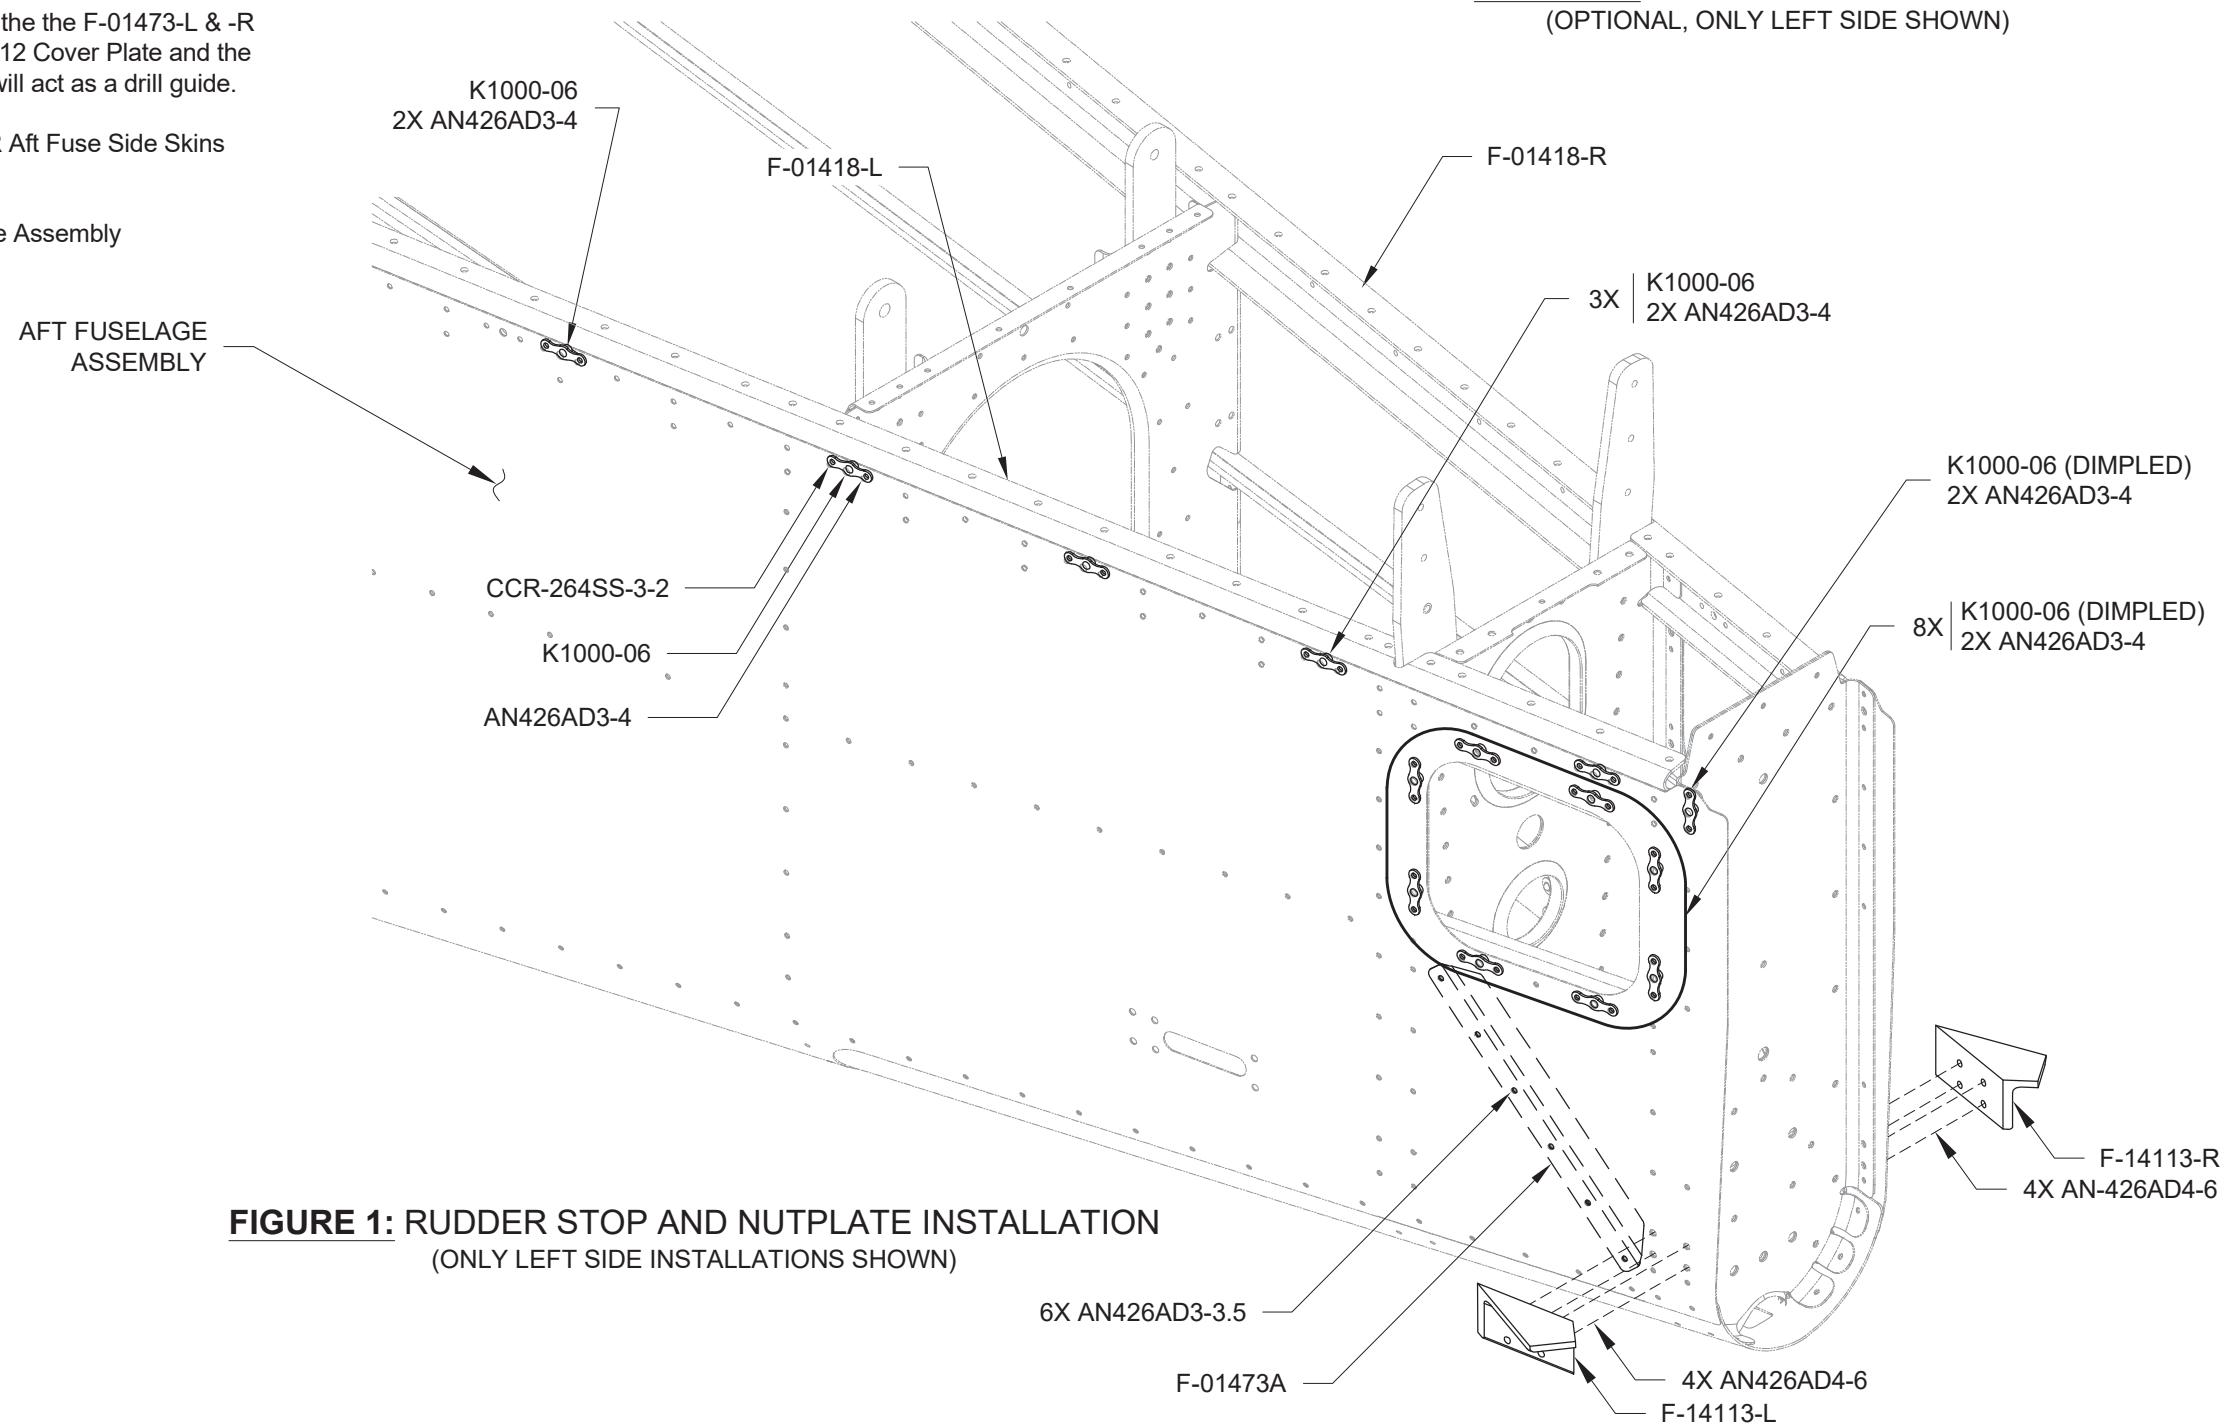

FIGURE 1: RUDDER STOP AND NUTPLATE INSTALLATION
Step 1: Install the snap bushings into the Aft Fuselage Assembly as shown in Figure 1.